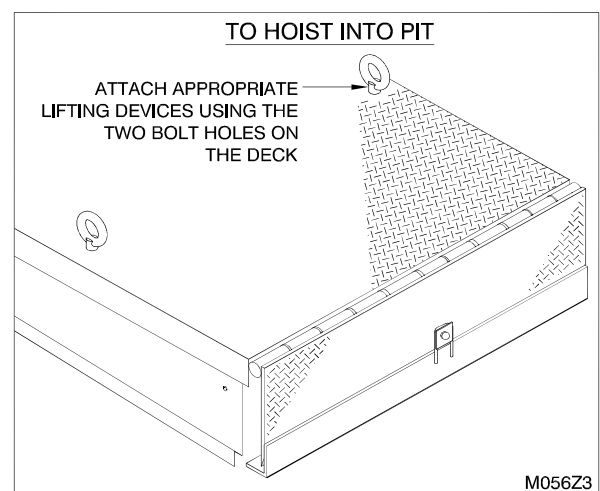

Figure 5: Attach Lifting Devices
6. ☐ Install an appropriate lifting device into the two supplied holes (5/8"-11 UNC) in the dock leveler (See "Figure 5: Attach Lifting Devices" on page 8).